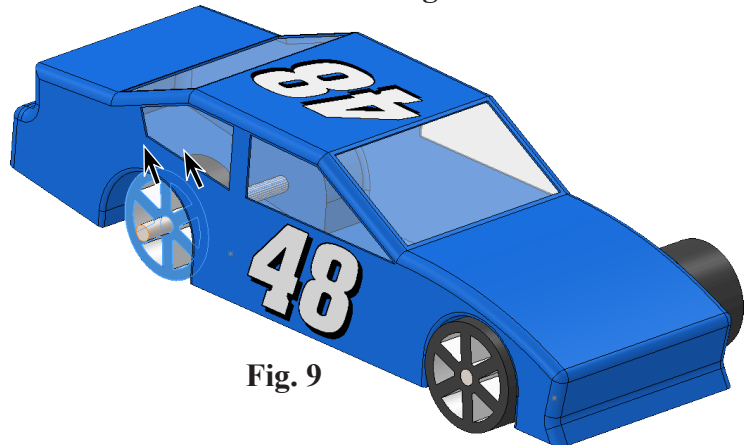

Fig. 9
Step 5. Click **side face Rear Wheel** and **end face of Rear Axle**, **Fig. 9**.